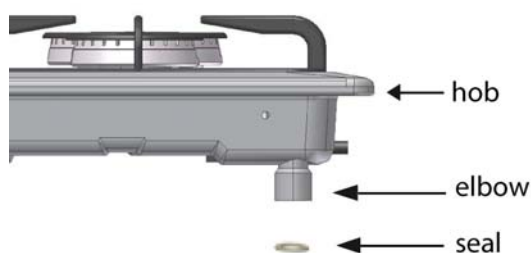

Fig. 11
- This hob is designed for gas and pressure indicated on the rating plate. The hob is equipped with an elbow and seal (Fig. 11).